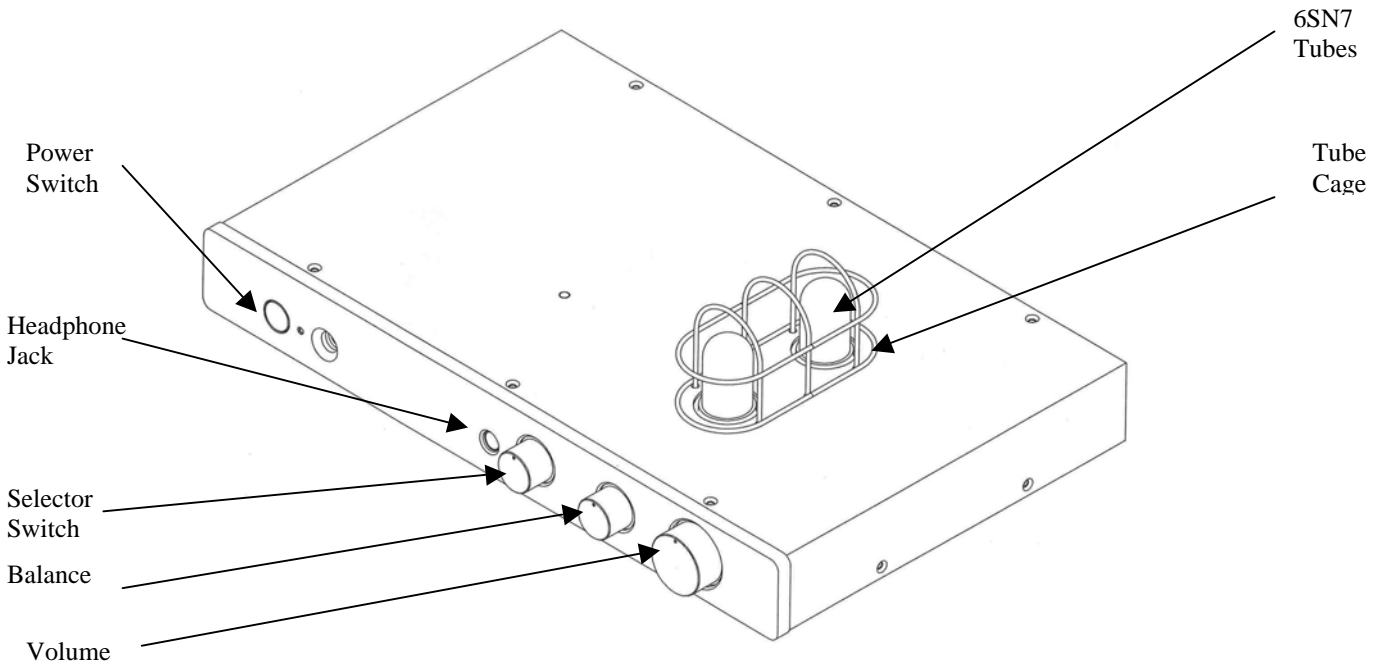

Figure 1 Metis Preamp
3. Insert the tubes into their sockets. See figure 1. Place the tube cage over the tubes and into the corresponding holes of the cover, if so desired.
The headphone jack is located on the front faceplate of the preamplifier, as shown in figure 1. The Metis headphone jack provides for a 1/4" or 6mm headphone connector. If you have headphones with a different size connector, you can use a suitable adapter. It is normal for a small amount of sound to come out of the loudspeakers when the headphones are plugged in. This can be eliminated by turning off the power amplifier.